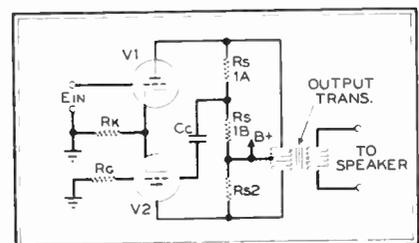

Fig. 4. Inversion from output transformer bleeder
**Method 4:** Fig. 4 shows a different but less desirable method of phase inversion. Here  $V_1$